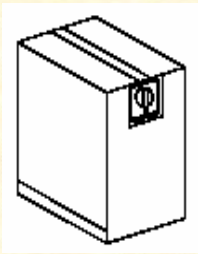

Figura 3.181. No-Break (UPS).
3.14 - NO-BREAK (UPS). Figura 3.181.